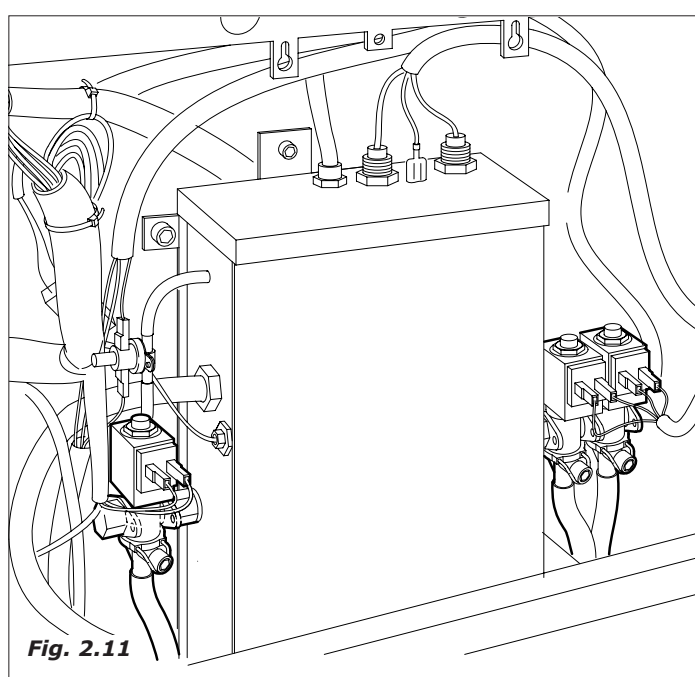
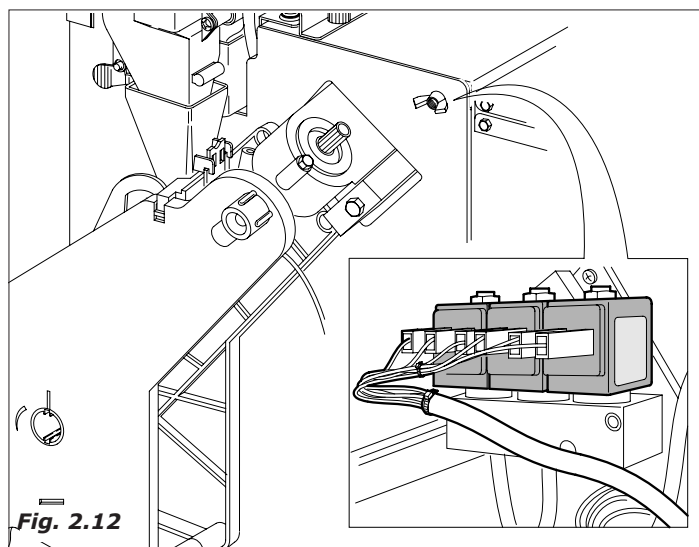

Fig. 2.11
Fig. 2.12
- The electro valve fixed on the soup boiler (Fig.2.11) or on the coffee boiler (Fig.2.12). it is activated to introduce into the mixer the programmed water quantity, according to the models: Single boiler, Double boiler or only Instant.